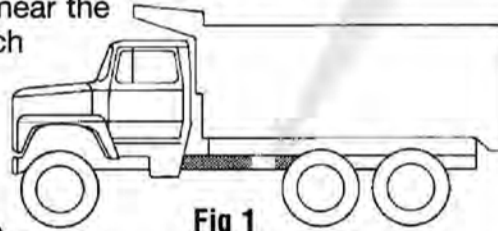

Fig 1
There are two (2) labels which measure approximately 4" x 8" which are to be placed on the outside of the vehicle frame rail, making them easy to be seen by anyone who might go under the truck or near the PTO. One label is to be placed on each side of the vehicle. **Fig 1**